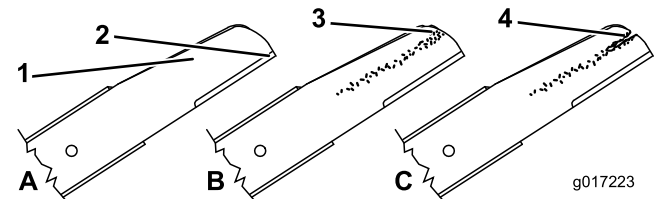

Figure 32
- Inspect the cutting edges (Figure 32). If the edges are not sharp or have nicks, remove the blades and have them sharpened or replace them.
- Inspect the blades themselves, especially the curved area (Figure 42). If you notice any damage, wear, or a slot forming in this area (Figure 32), immediately replace them with new blades.